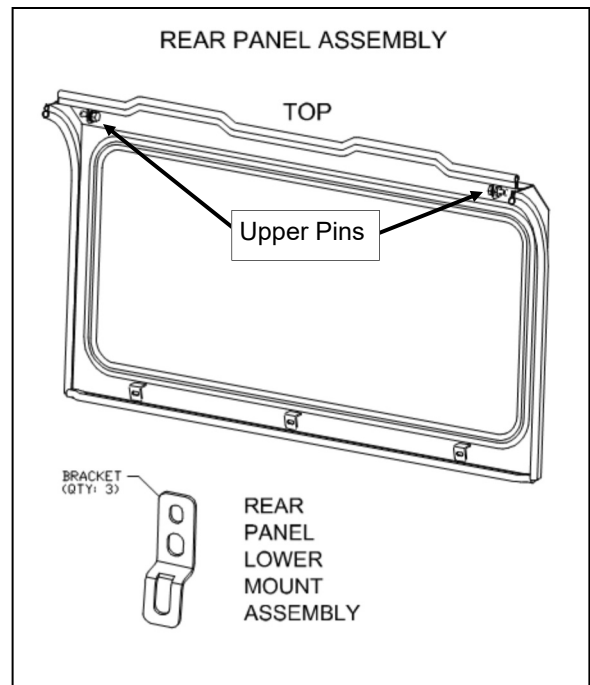

Fig. 3.1 (contents of rear panel kit)
3.1 Fig. 3.1 shows the contents of the rear panel kit.